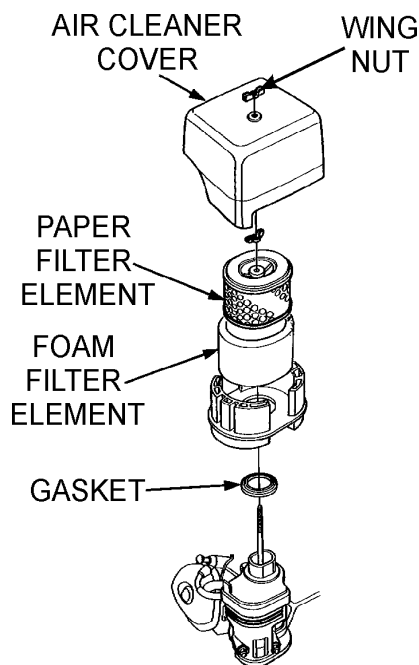

Figure 22. Engine Air Cleaner
1. Remove the air cleaner cover and foam filter element as shown in Figure 22.
2. Tap the paper filter element (Figure 22) several times on a hard surface to remove dirt, or blow compressed air [not exceeding 30 psi (207 kPa, 2.1 kgf/cm²)] through the filter element from the air cleaner case side. **NEVER** brush off dirt. Brushing will force dirt into the fibers. Replace the paper filter element if it is excessively dirty.